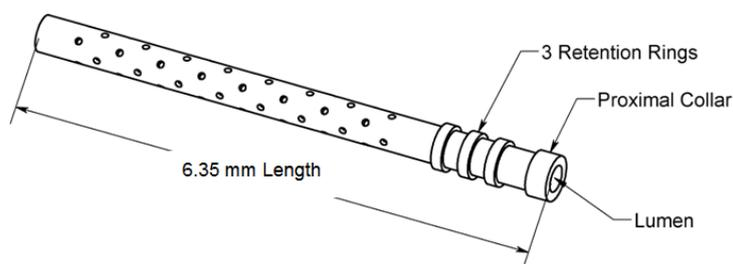

Figure 1: CyPass® Micro-Stent
The CyPass® Micro-Stent (Figure 1) is a polyimide tube with a fenestrated lumen. The stent has a single piece design and is 0.25" (6.35 mm) long. The inner diameter of the stent is 0.012" (0.30 mm) and the outer diameter is 0.017" (0.43 mm). The CyPass® Micro-Stent is designed for placement in the angle of the eye, with the proximal end extending from the angle into the anterior chamber (AC) and the distal end residing in the supraciliary space.